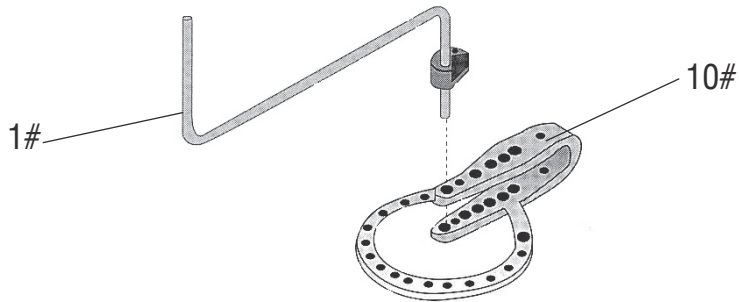

Figure 1
1. Insert Handle/Inner Die Assembly (1#) into the Ring Assembly/Die Receiver (10#) of the Compact Floor Bender. See **Figure 1**.